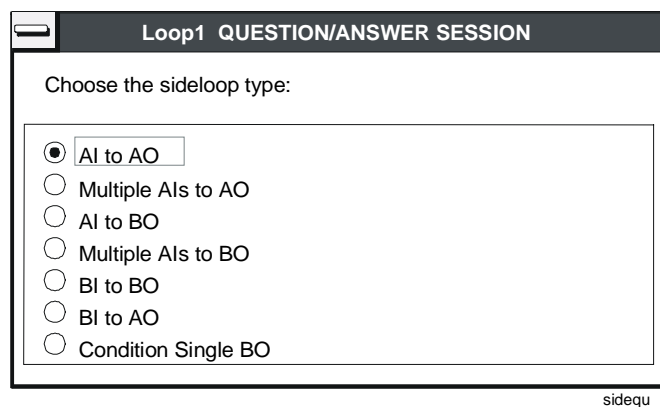

Figure 11-4: Sideloop Question/Answer Dialog Box
3. Enter the name of the sideloop (up to 14 characters) and click OK or press Enter. HVAC PRO software will lead you into a Question/Answer session much like the one used for new configurations. The screens are similar to the one shown in Figure 11-4.